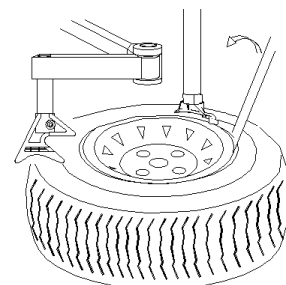

Fig 14
**a-** Move the mounting head near the edge of the rim, rotate the tire pressing arm to move the tire pressing block above the tire, press the switch handle to depress the tire, and insert the lifting lever in the clearance between the tire and the rim, then hang the bead on the mounting head. **(Fig 14)**